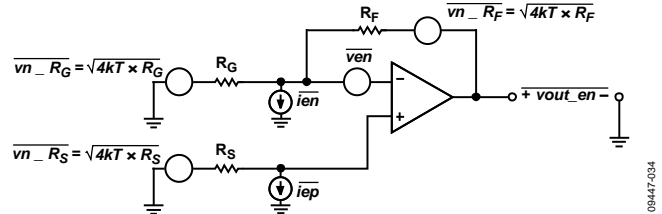

Figure 46. Noise Sources in Typical Connection
Figure 46 illustrates the primary noise contributors for the typical gain configurations. The total rms output noise is the root-mean-square of all the contributions.
- R_S is the source resistance, as shown in Figure 46.
- R_F and R_G are the feedback network resistances, as shown in Figure 46.